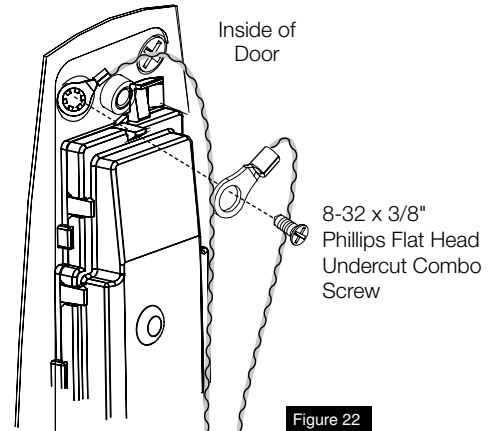

Figure 22
3. Twist into place, perpendicular with door. (Figure 22)
4. Position green/yellow ground wire ring terminal (from lockbody) over hole for top left screw. (Figure 22)